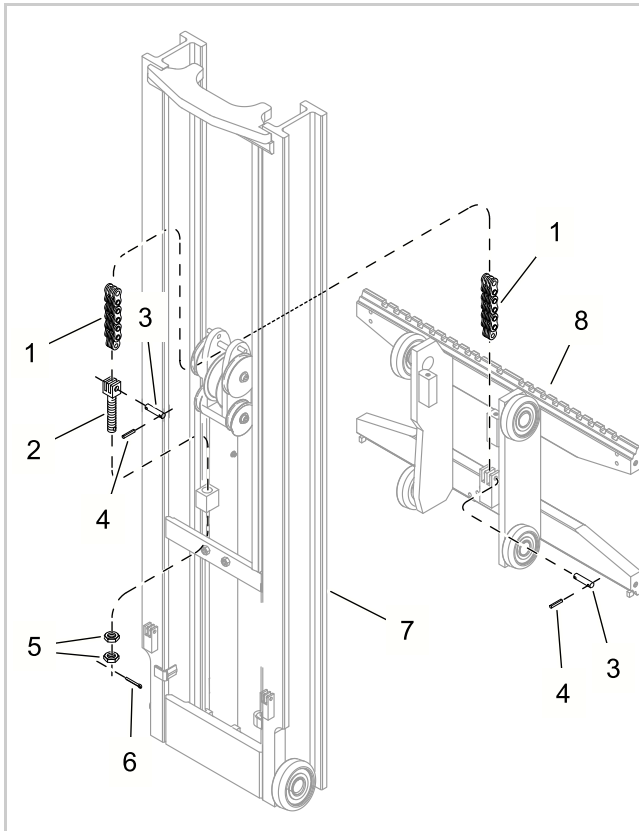

Fig. 25 (25470)
17. Attach the carriage chain (1, Figure 25) to the chain anchor (2) on the carriage cylinder.
18. Route through the yoke (8) and attach to the carriage.
19. To secure, use the chain pin (3) and the roll pin (4).